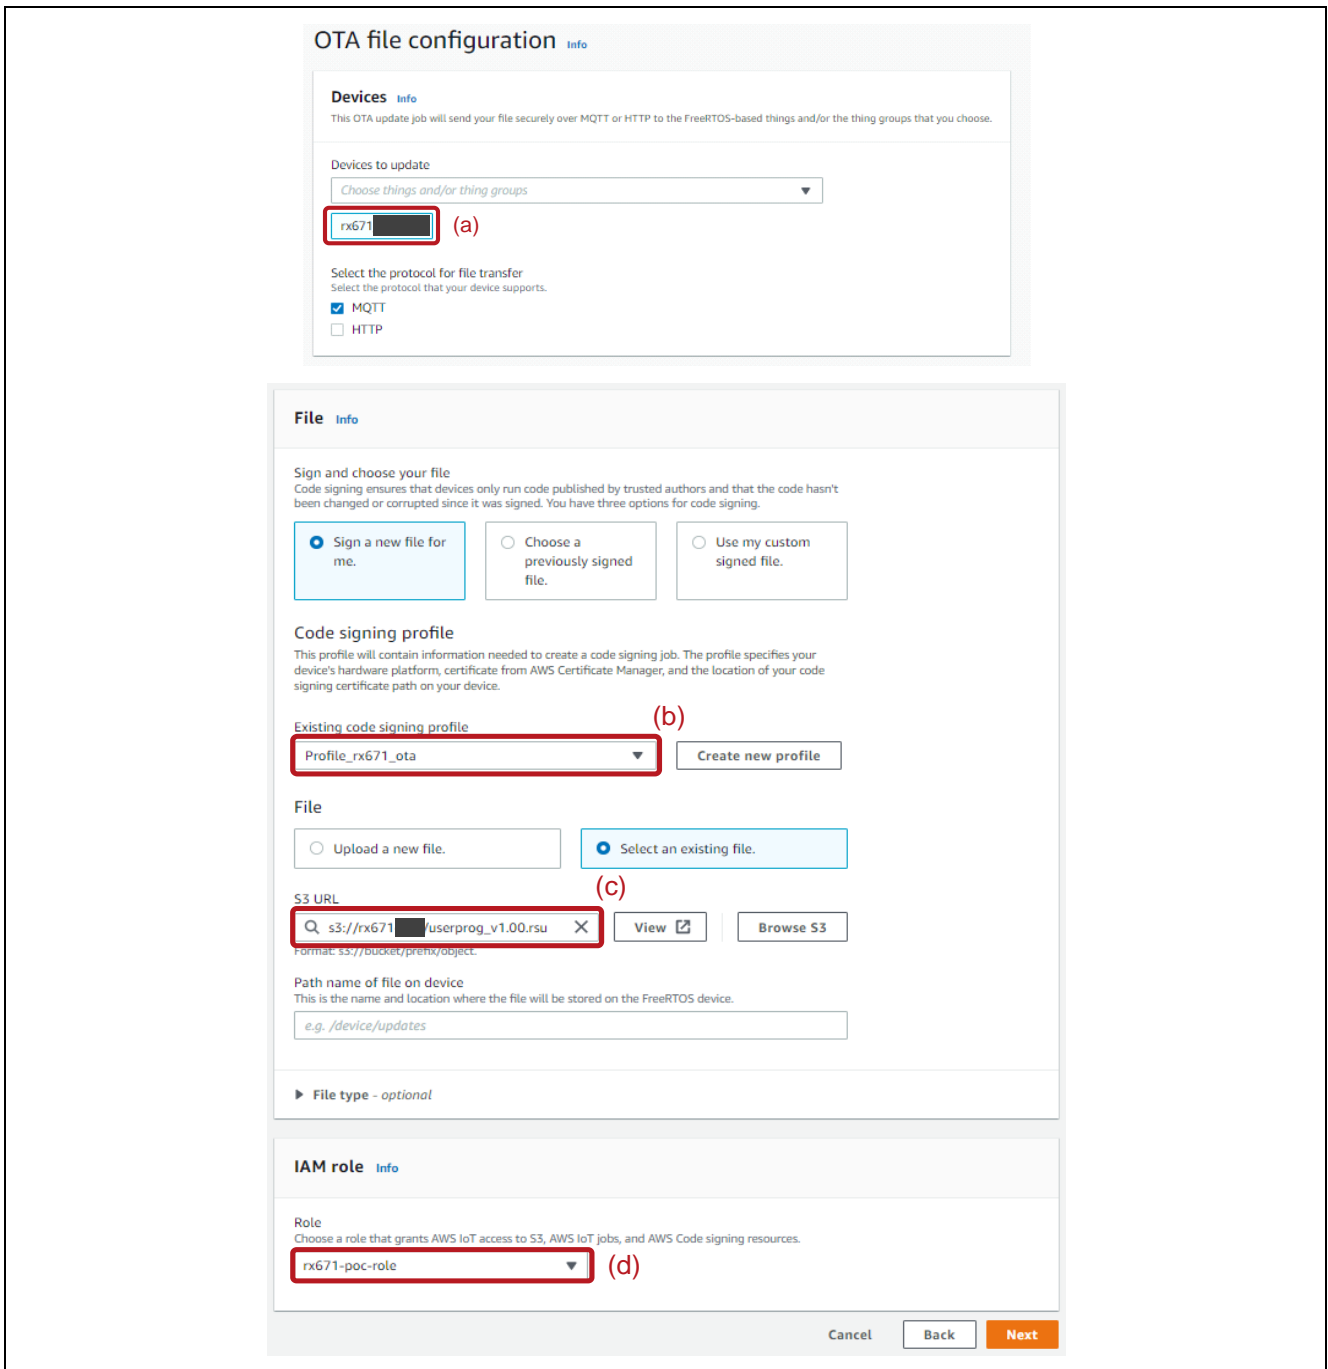

Figure 7-3 Job creation (1)
- Select the name of the thing. (Figure 7-3 (a), Figure 8-11)
- Select Code signing profile. (Figure 7-3 (b))
- Select firmware image from S3 for FOTA. (Figure 7-3 (c))
- Select IAM role. (Figure 7-3 (d))